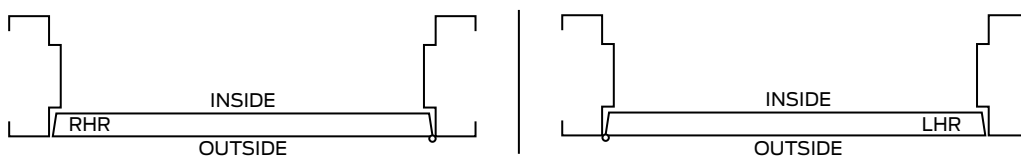

Figure 11.3: Reverse handed shutters
- Reverse handed shutters (Figure 11.3: Reverse handed shutters): Shutters without glass that are installed into the rabbet nearest to the storm side of the opening is reverse handed. This option would not have glass.